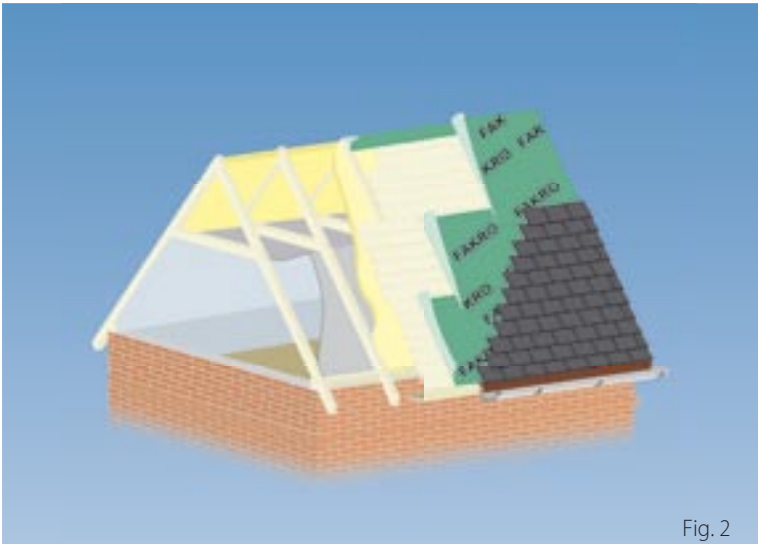

Fig. 2
2. Scottish practice, with slates nailed through the membrane directly onto timber planks (nominally 150 mm wide with a 2 mm gap) without battens. (Fig. 2)